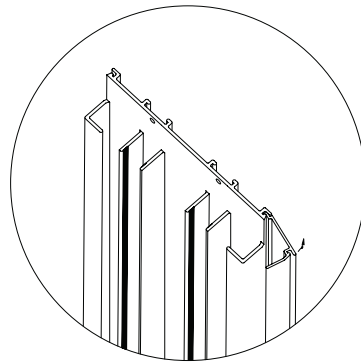

Figure 22
1. The screen frame jambs must be installed first to the mainframe jamb. The screen jambs interlock to the mainframe jamb. Insert tail piece and rotate out. (See Figure 22)